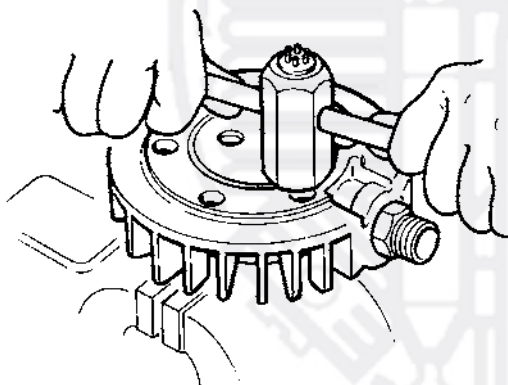

Fig. 8 Removing the intake valve
- Unscrew the intake valve body with the special tool (part no. 4555-645, part of the tools set delivered with the unit (Fig. 8).